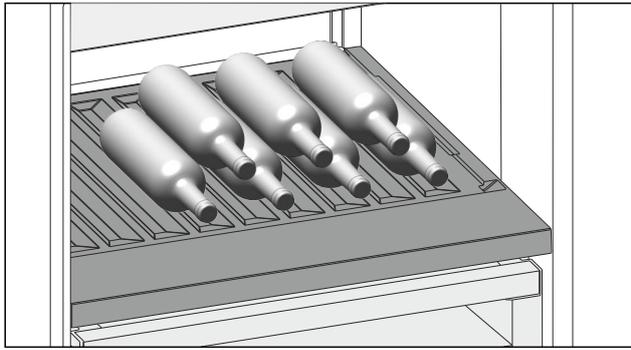

Fig. 115
- ▶ Place bottles in the back row with their bases against the back wall. (see Fig. 115)